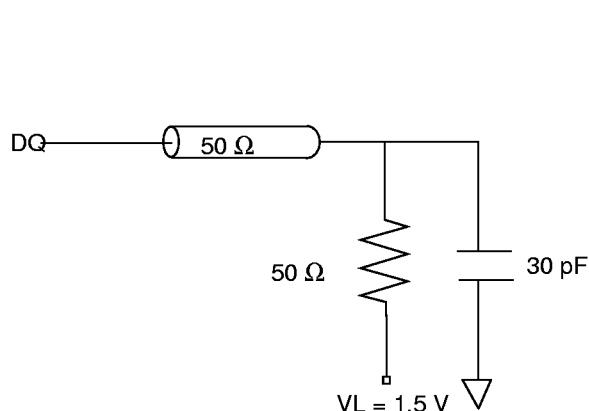

Fig. 1 Test Equivalent Load
1. See AC Test Loading figure 1 on page 8.
3. See AC Test Loading figure 1 on page 8.